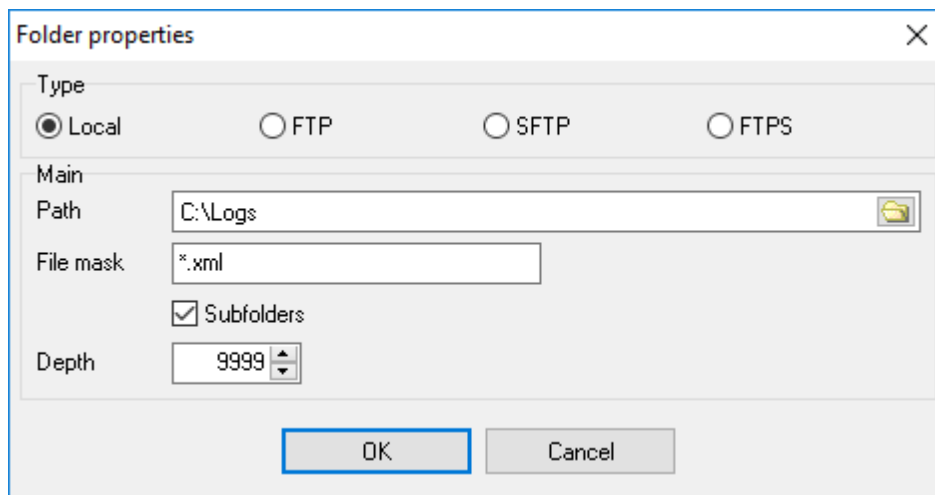

Fig. 2.6.3 Folder properties
**Add...** - the item allows you to add a new folder to the list. After you select this item, you will see the Folder Properties dialog box on the screen (fig. 2.6.3). Specify the folder properties, click the OK button and the folder will appear in the list. If you change your mind, click Cancel.
**Edit...** – the item shows the "**Folder properties**" dialog box (fig. 2.6.3). Change the folder properties and click OK to save them. If you change your mind, click Cancel. The item is not available if the list is empty.